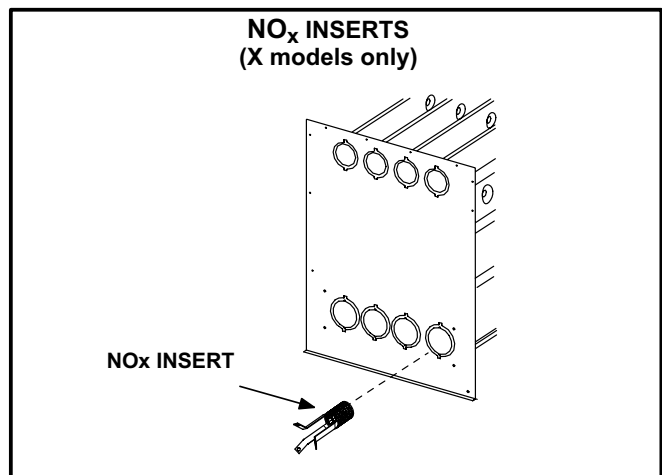

FIGURE 23
11 -**NO_x units only** - Remove the three screws that attach the **NO_x** insert to the corbel at the entrance to each heat exchanger section. Carefully remove the **NO_x** insert from each section. See figure 23.
- 19 -**NO_x Units** - Reattach the NO_x inserts to the corbels at the entrance to each heat exchanger opening. See figure 23.